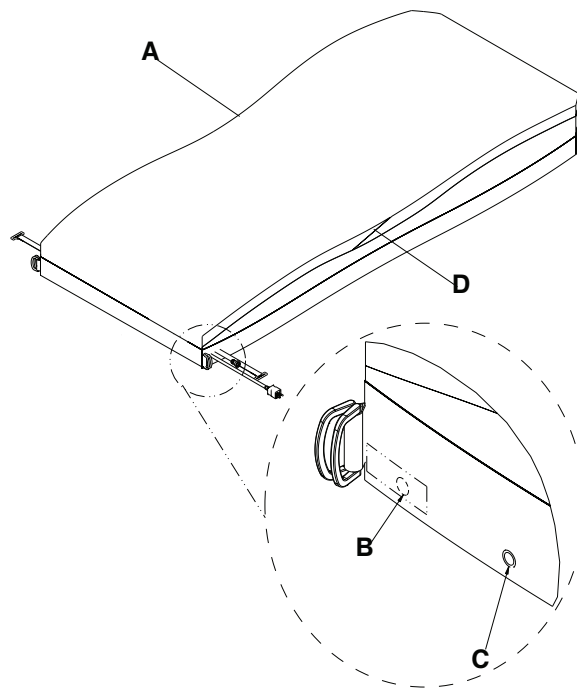

Figure 18 – Top cover
5. Unsnap the two secure snaps (C) at the foot end corners (Figure 18).
6. Unsnap the two foot end corner retainers (B) (Figure 18).
8. Using the zipper pull tool or equivalent, unzip the support surface top cover from the bottom cover (A) (Figure 18) and stop unzipping at the middle of the opposite side (D).